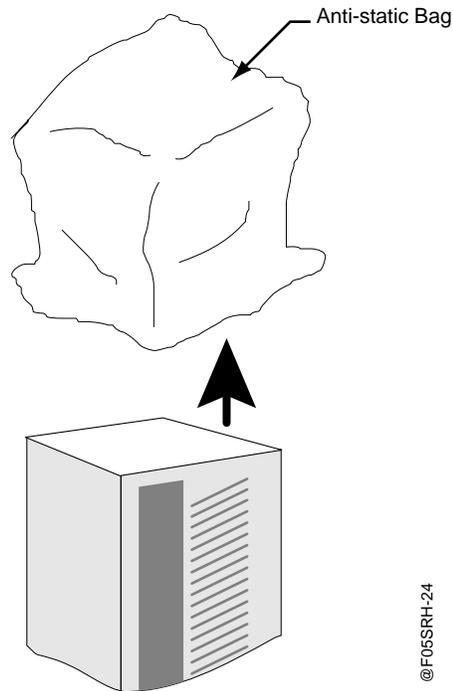

Figure 4-3: Removing the Antistatic Bag
5. Remove the antistatic bag (see Figure 4-3). Do not discard the bag. Use it to protect equipment during installation.